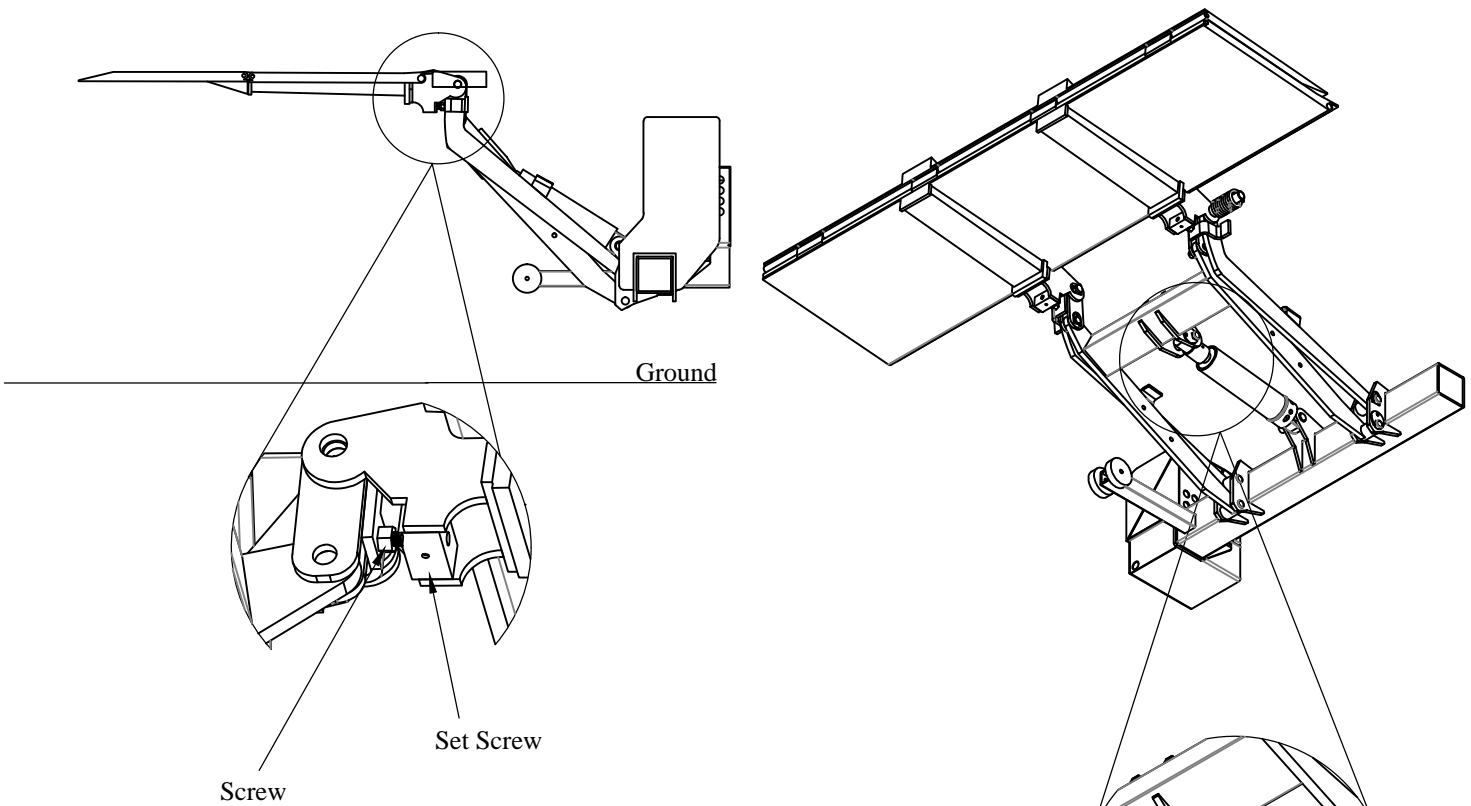

Figure 22: Adjusting Screws.
20. **Adjust** the platform slope using the adjusting screws so the platform front taper stays 1"-2" higher than the rear of the platform. This allows for liftgate deflection when fully loaded. After finding the right position, lock the set screws. The screws must be adjusted, so they support the platform evenly (Figure 22).